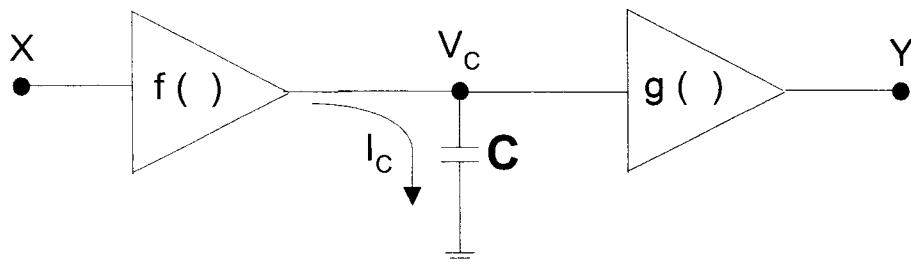

Figure 5.1
- a. Figure 5.1 illustrates a general companding circuit.